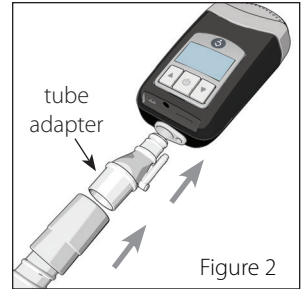

Figure 2
1. Connect one end of the **CPAP Tube** to the round end of the **Tube Adapter** then insert the other end of the **Tube Adapter** into the outlet of the **Z1**. (Figure 2)